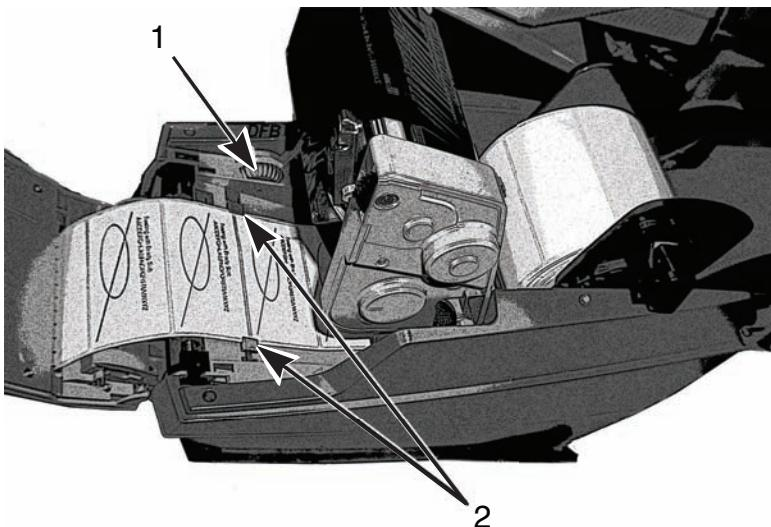

Figure 8, Alignment Guides
5. Thread the material under the ribbon carrier, under the guides (**Figure 8, 2**) and forward through the slot in the front cover.
6. Turn the green dial on the left (**Figure 8, 1**) to adjust the guides so they just snug up against the labels. Do not tighten the guides enough to crimp the labels.